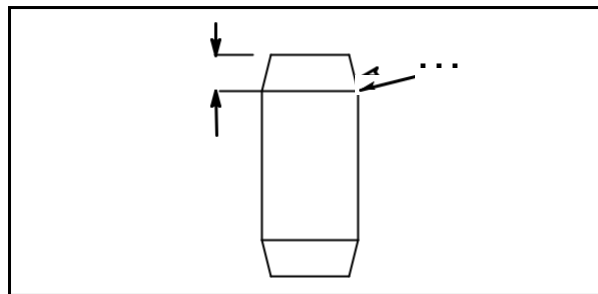

Fig. 12
Grind off the taper (5), approximately **1/8"** (**3 mm**) (4), from one end of new roll pin as shown, **Fig. 12**.